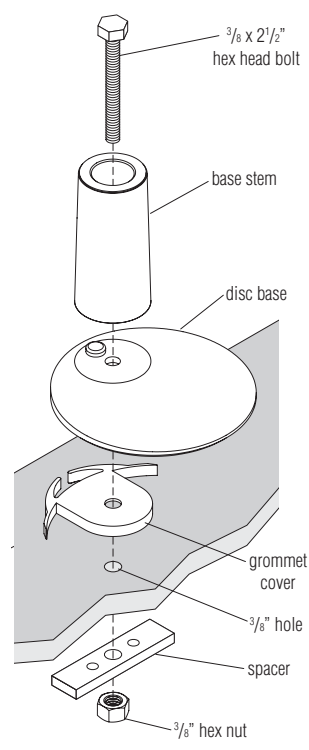

Figure 6
F. Base stem over disk/grommet cover, secured through $\frac{3}{8}$ " hole in worksurface using $\frac{3}{8}$ " hex nut (Figure 6).